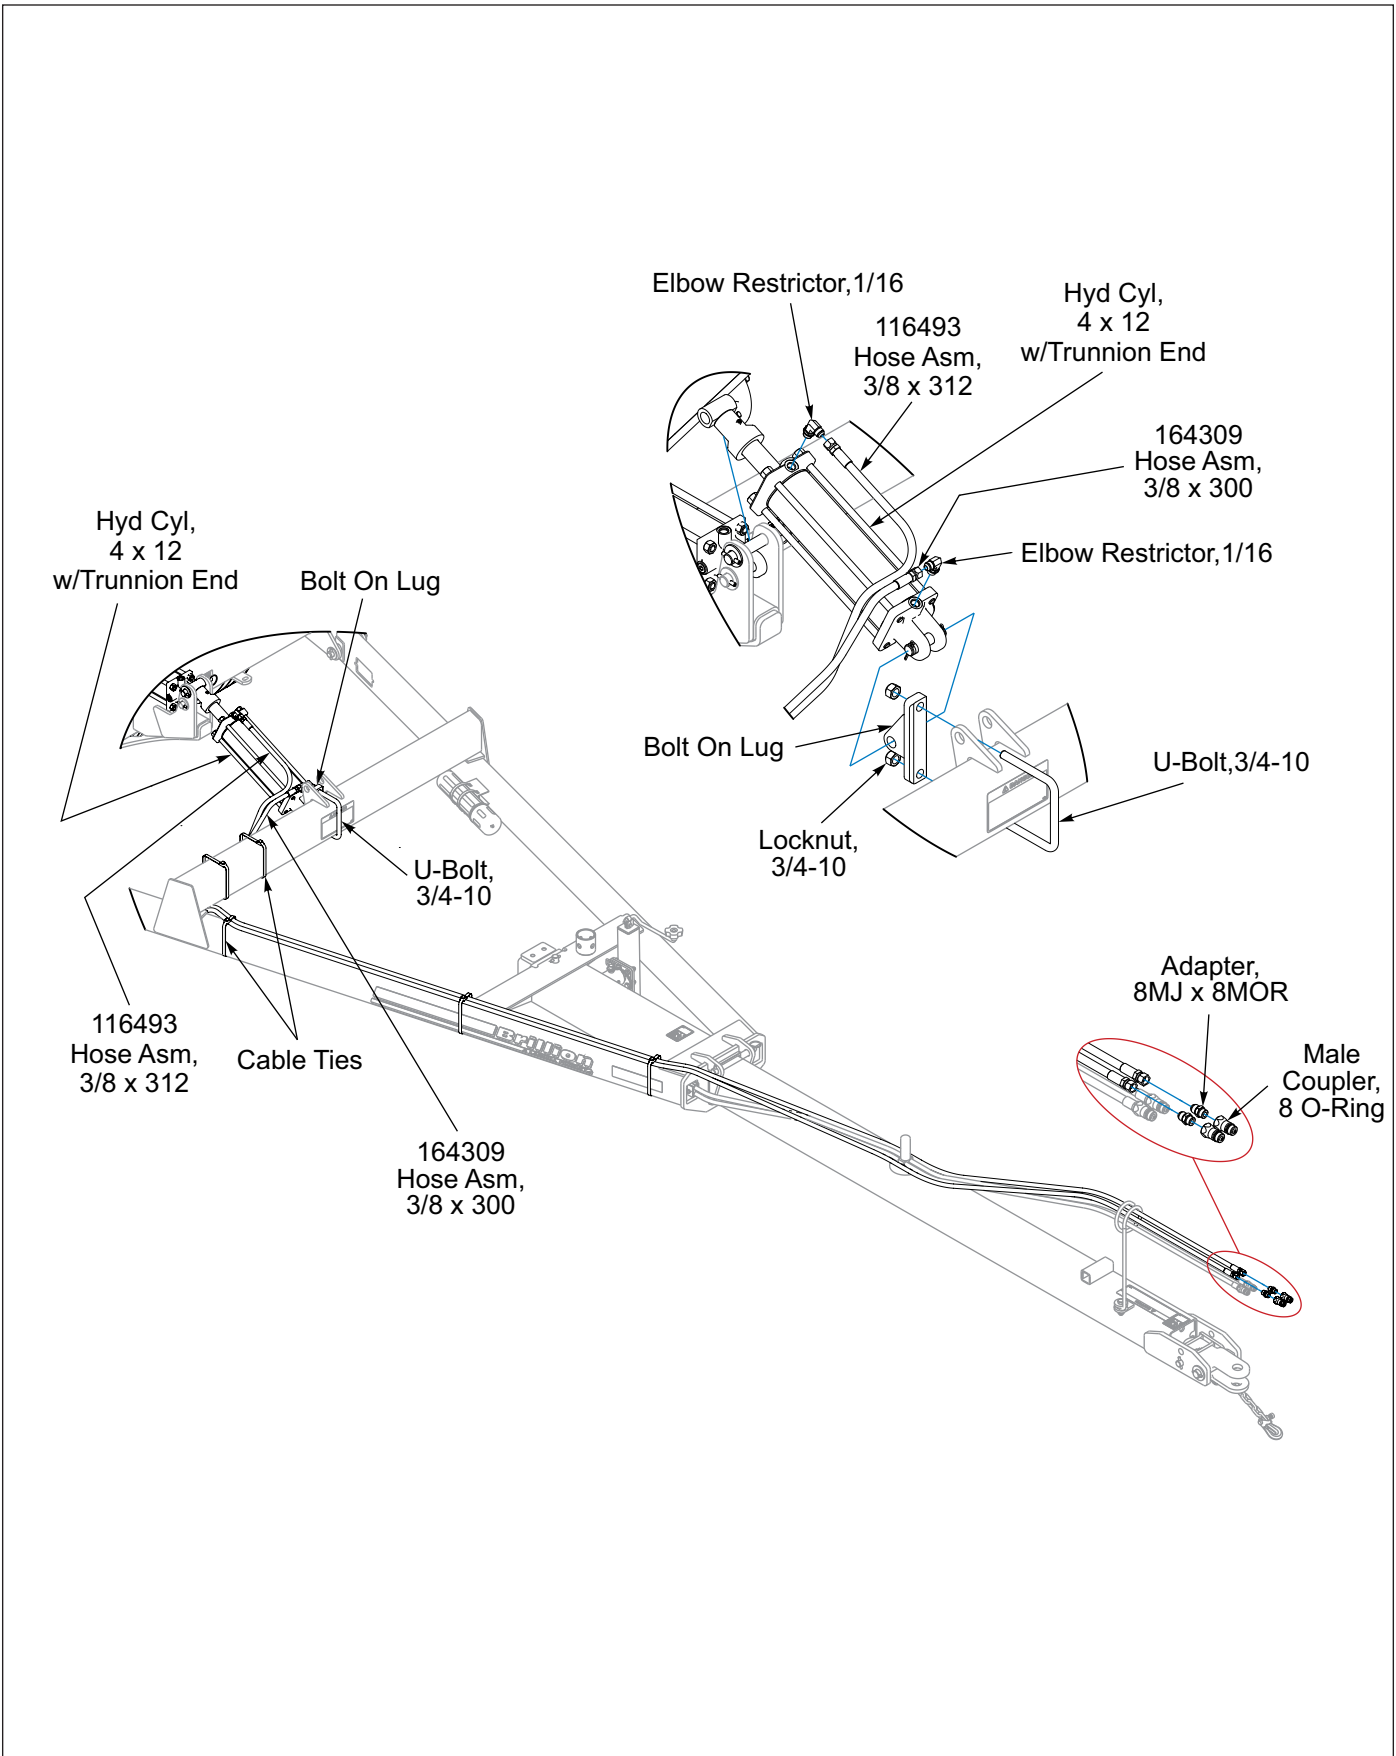

Figure 2-29: Hydraulic Top Link Kit - Optional
3. Install Bolt-On Lug between Drawbar Lugs with 3/4-10 U-bolt and Locknuts. **See Figure 2-29.**